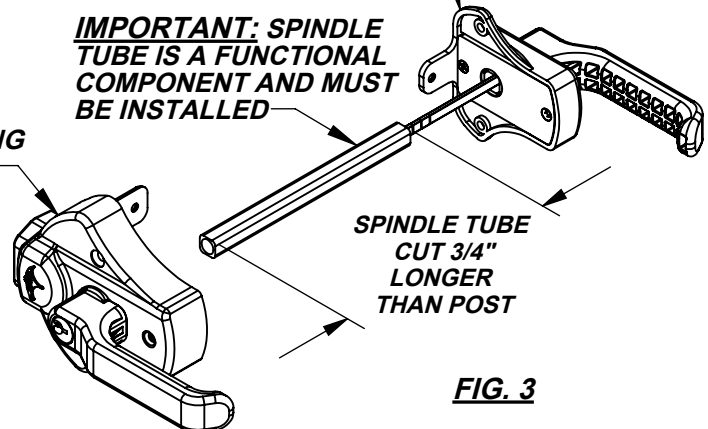

FIG. 3
- Slide the Spindle Tube over the Lock Spindle and insert into the Back Housing Assembly approx 3/8" (Fig. 3)